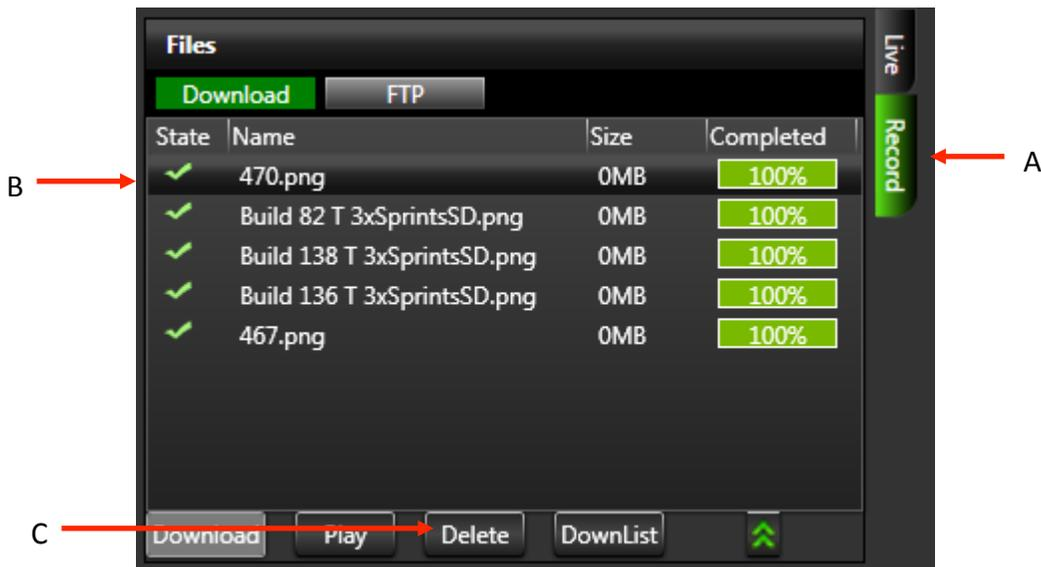

Figure 26 Delete stored content screen
1. On the TVUPack Receiver screen, select the Record tab **(A)** (Figure 26).